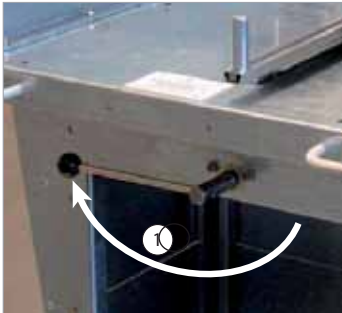

Fig. 4.8
- Turn lever to the left (Fig. 4.8, 1). The trolley is lifted on the front.